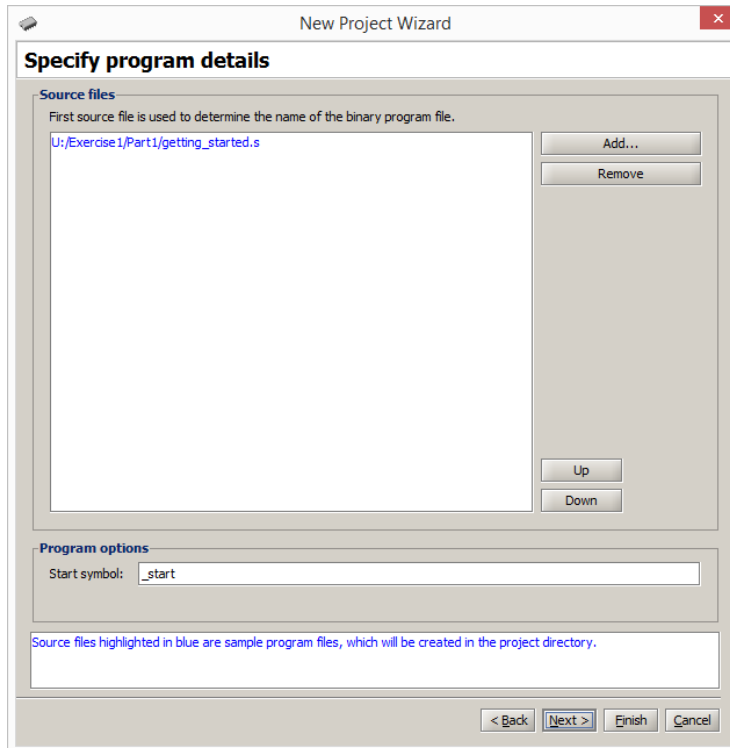
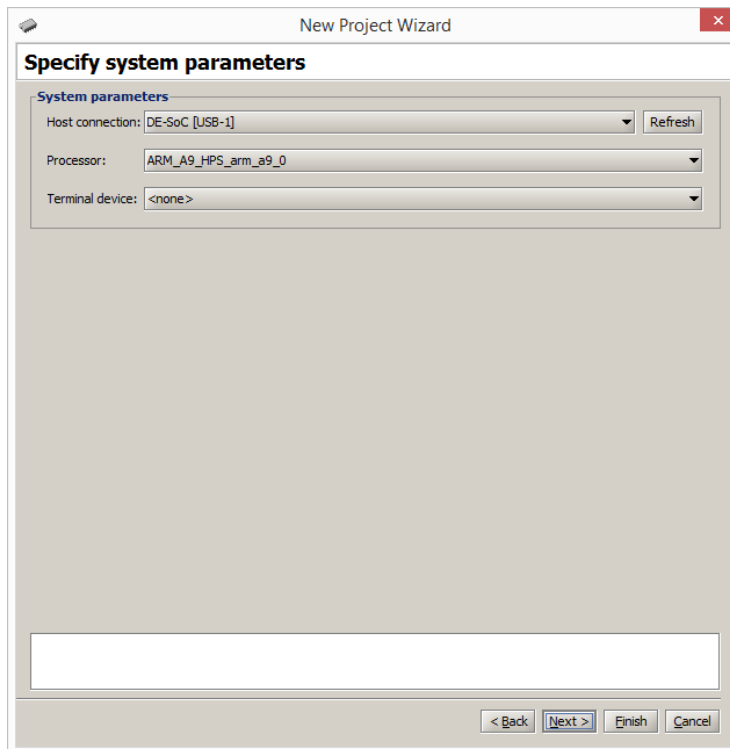
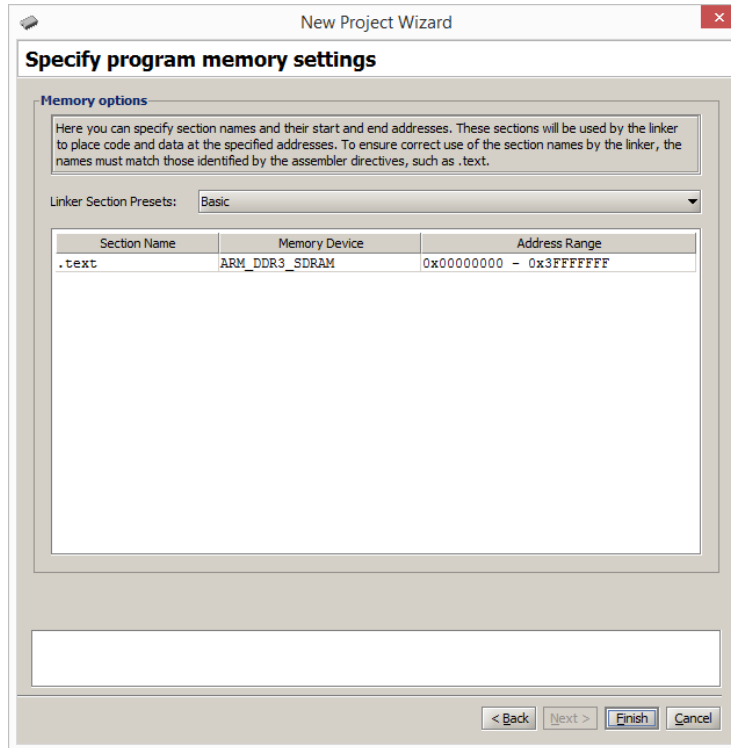

Figure 5: Source files used by the application program.
Figure 6: Specify the system parameters.
Figure 7: Specify the program memory settings.
5. The window in Figure 5 is used to specify the source file(s) that contain the application program(s). Since we have selected the *Getting Started* program, the window indicates the source code file for this
6. The window in Figure 6 indicates some system parameters. Note that the figure indicates that the *DE-SoC [USB-1]* cable is selected to provide the connection between the DE1-SoC board and the host computer. This is name assigned to the Altera USB-Blaster connection between the computer and the board. Click **Next**.
7. The window in Figure 7 displays the names of Assembly sections that will be used for the program, and allows the user to select a target memory location for each section. In this case only the *.text* section, which corresponds to the program code (and data), is defined. As shown in the figure, the *.text* section is targeted to the DDR3 memory in the DE1-SoC Computer, starting at address 0. Click **Finish** to complete the specification of the new project.
2. Upon reaching the window in Figure 5, you have to specify the source code file for your program. Click **Add** and in the pop-up box that appears indicate the desired file name, *part2.s*. Click **Next** to get to the window in Figure 6. Again click **Next** to get to the window in Figure 7. Notice that the **DDR3_SDRAM** is selected as the memory device. Your program will be loaded starting at address 0 in this memory. Click **Finish**.